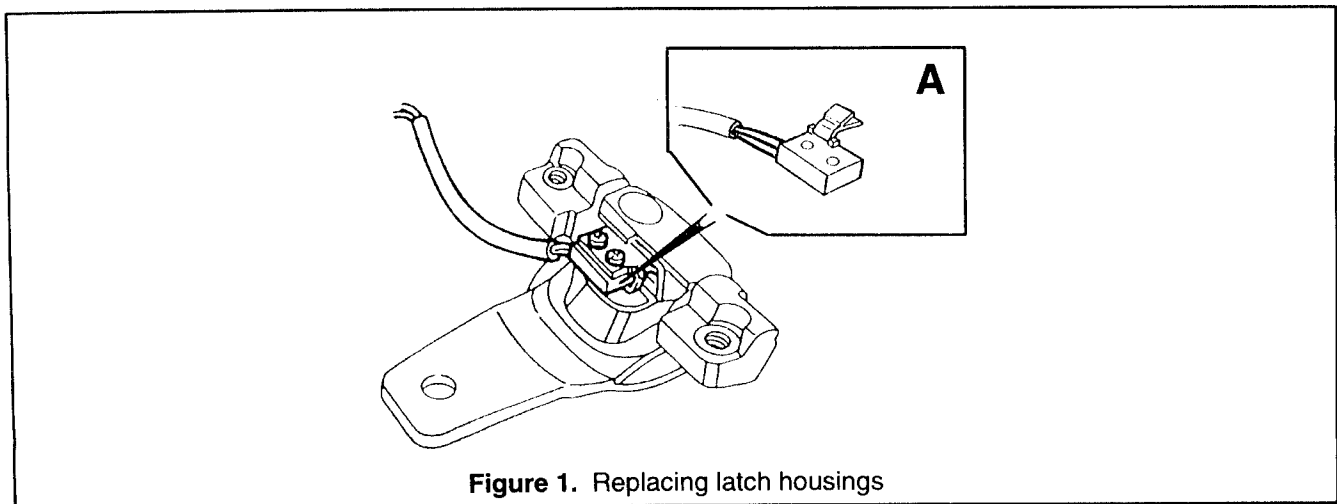

Figure 1. Replacing latch housings
Check that the microswitches have been changed and that the microswitches, P/N 46 95 979 (Figure 1, point A) are fitted as described in PSI 04/97-0753. Also check that the lever arm on the microswitch has not been damaged by this interference. If the microswitch is damaged, replace it.
2. If the microswitches (Figure 1, point A) are undamaged, transfer them to the new housing.